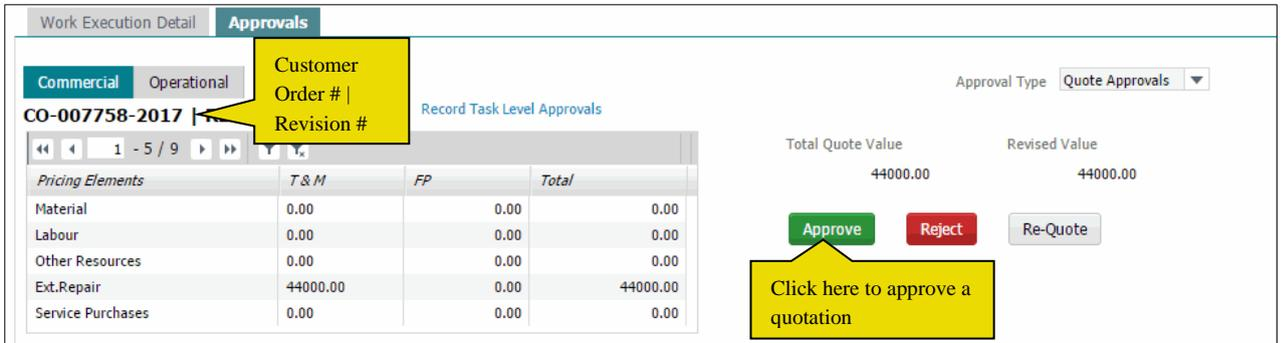

Figure 2.6 Approvals tab – Commercial Approval
1. Select the **Approvals** tab in the **Service Orders** section of the **Customer Portal** business component. The Work Execution Details tab page appears. *See Figure 2.6.*